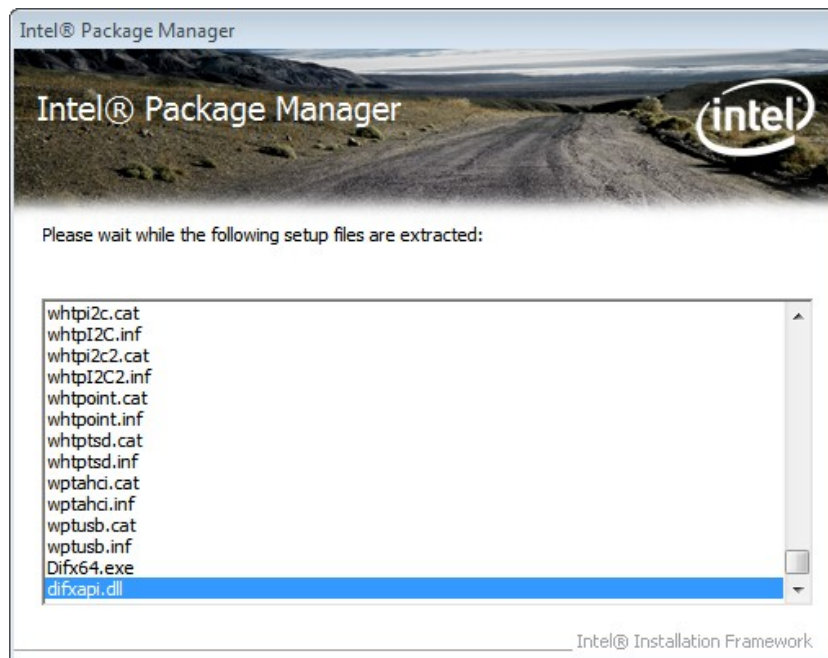

Figure 6-1: Chipset Driver Screen
Step 3: The setup files are extracted as shown in **Figure 6-1**.